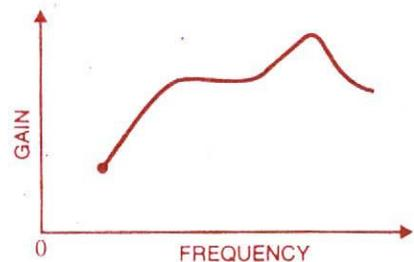

Fig. 13.14
**Frequency response.** The frequency response of a transformer coupled amplifier is shown in Fig.13.14. It is clear that frequency response is rather poor *i.e.* gain is constant only over a small range of frequency. The output voltage is equal to the collector current multiplied by reactance of primary. At low frequencies, the reactance of primary begins to fall, resulting in decreased gain. At high frequencies, the capacitance between turns of windings acts as a bypass condenser to reduce the output voltage and hence gain. It follows, therefore, that there will be disproportionate amplification of frequencies in a complete sig-